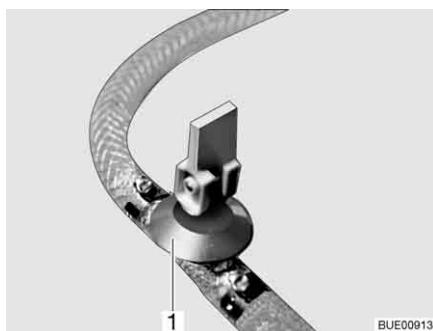

Fig. 165 Drain cock (with rocking lever)
- Close all drain cocks. In order to do this, position the rocking lever of the drain cock (Fig. 165,1) horizontally.